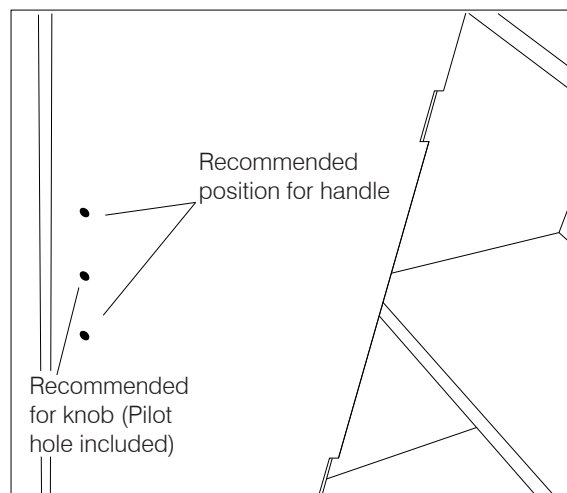
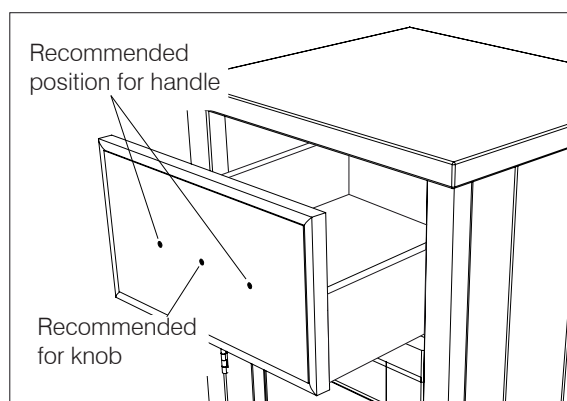

Figure 2
Figure 3
- Drill the door from the back (Fig. 2) and the drawer from the front (Fig. 3)